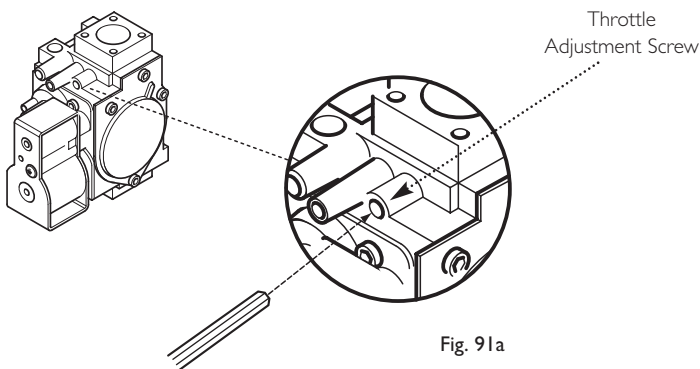

Fig. 91a
**NOTE:** To assist the boiler to light prior to final setting, use a suitable hexagon key to wind out the Throttle adjustment screw until it is flush with the valve body, then turn the screw 4 full turns clockwise (Fig. 91a). If the boiler will not light, or the correct CO2 cannot be achieved contact the 'heateam' technical helpline.